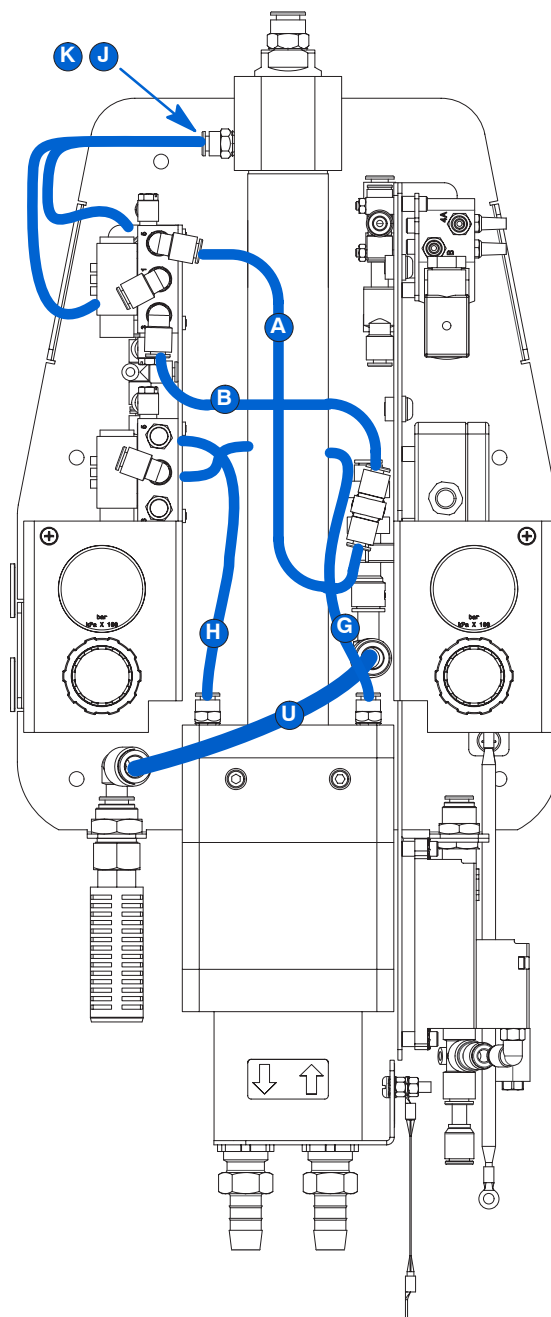
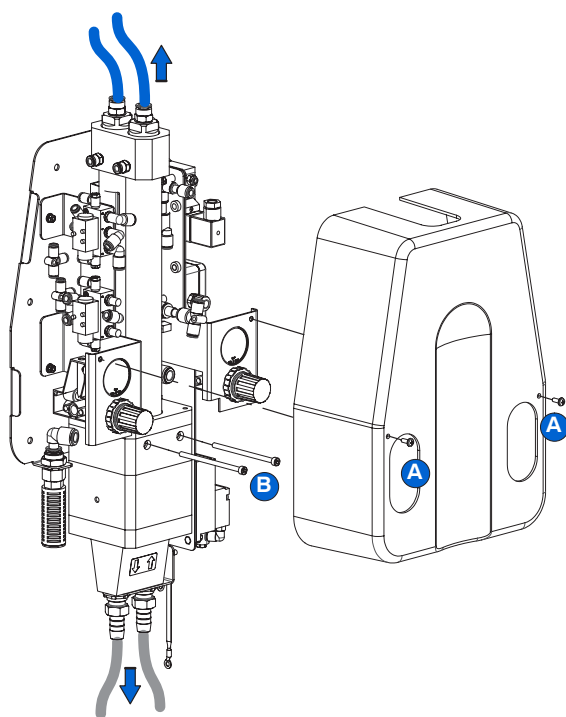

Figure 12 Disconnecting Air Tubing
Figure 11 Removing the Pump Assembly
1. See Figure 11. Disconnect the purge air lines from the top of the pump.
3. Remove the two screws (A) and the cover from the pump.
4. See Figure 12. Disconnect one end of each of the seven air tubes indicated.
NOTE: The letters in Figure 11 correspond to the letters in the Tubing Diagram on page 28.
5. See Figure 11. Remove the two screws (B) securing the pump assembly to the base. Remove the pump assembly to a clean work surface.